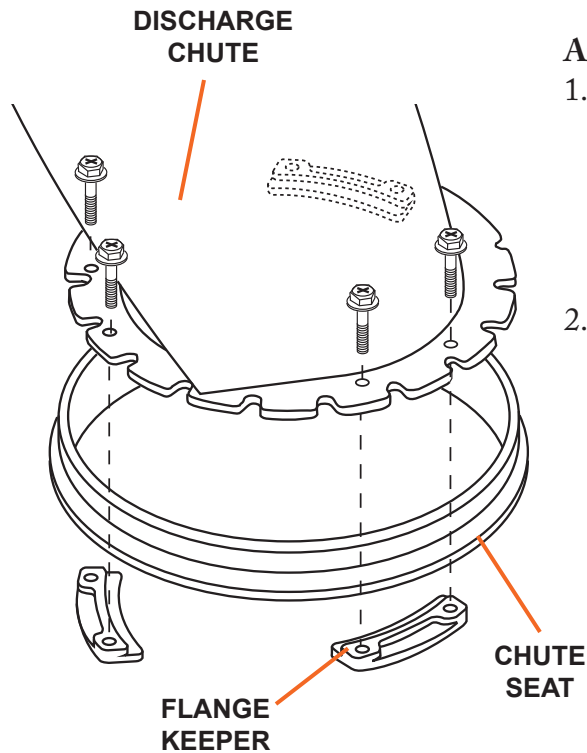

Figure 7
1. Attach the discharge chute to the snow blower by placing it on the chute seat on the snow blower. Position the flange keeper beneath the chute seat lip. Align the two holes in the chute and two holes in the flange keeper and secure with two bolts from the top side (see Figure 7). Repeat in three locations to attach the discharge chute to the snow blower.